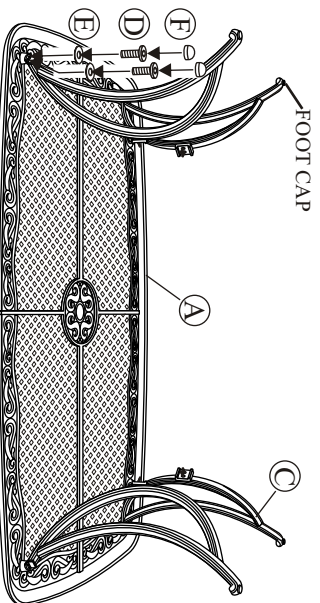

Fig. 1
Step 2: Place the table top upside down on a flat, non-abrasive surface. Attach a table leg to the table top by using the bolts and washers as shown in Fig. 1. Guide bolts through holes in the table legs and into the pre-drilled holes in the table top. **Hand tighten 2-3 turns only.** Repeat for the other three legs.
Place the table top upside down on a flat, non-abrasive surface. Attach the table leg to the table top by using the bolts and washers as shown in Fig. 1. Guide the bolts through the holes in the table leg, into the pre-drilled holes in the table top. **Hand tighten only.** Repeat for the other three legs.